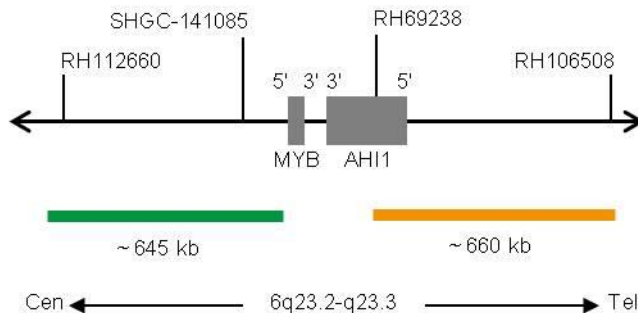

Fig. 1: SPEC MYB Probe map (not to scale)
- ZyGreen (excitation 503 nm/emission 528 nm) labeled polynucleotides (~10.0 ng/ μ l), which target sequences mapping in 6q23.2-q23.3* (chr6:134,840,690-135,483,752) proximal to the MYB breakpoint region (see Fig. 1).
- ZyOrange (excitation 547 nm/emission 572 nm) labeled polynucleotides (~4.5 ng/ μ l), which target sequences mapping in 6q23.3* (chr6:135,728,667-136,390,142) distal to the MYB breakpoint region (see Fig. 1).